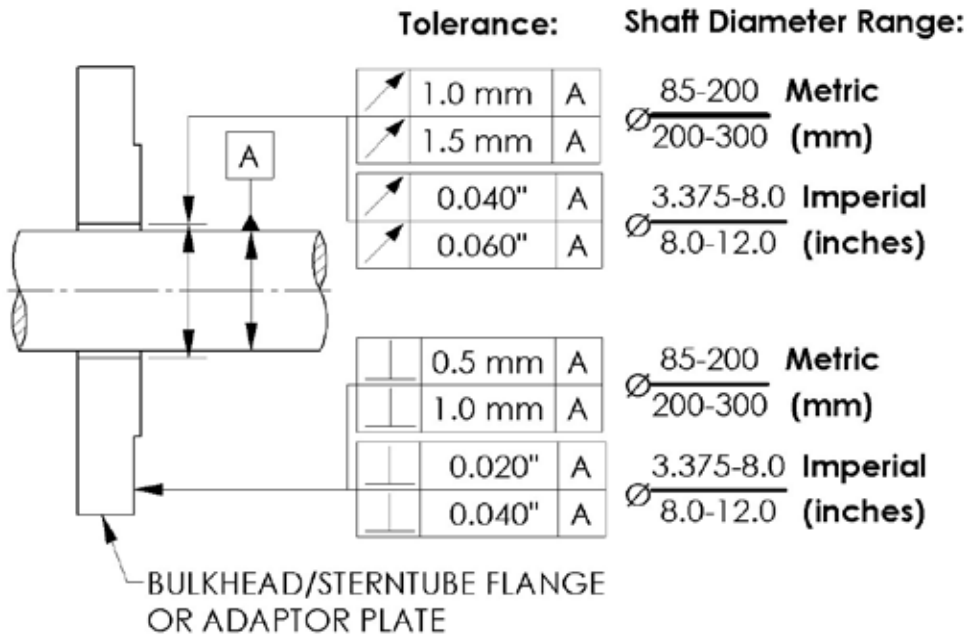

Figure 12: TG100 Seal - Perpendicularity and Runout tolerances
**CAUTION:** The adaptor plate shall be installed in alignment with the propeller shaft AFTER the shaft is aligned. For the standard requirements on perpendicularity, runout and out-of-round tolerance please refer to Figure 12 in APPENDIX.